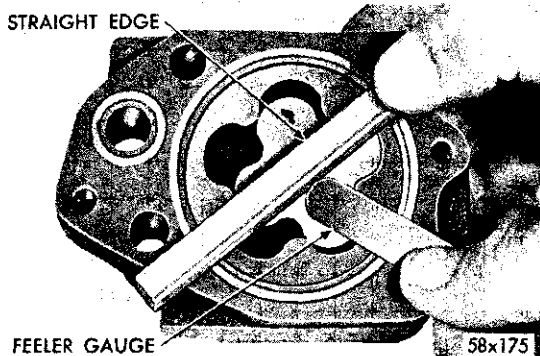
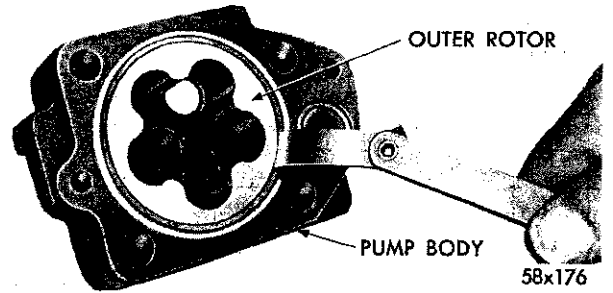
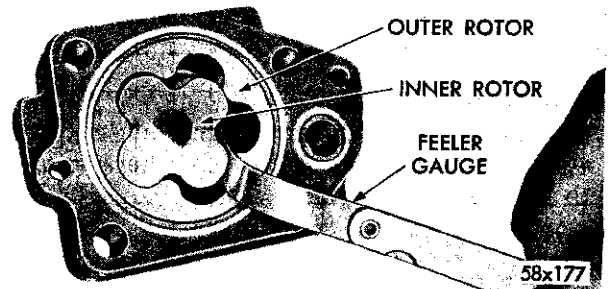

Fig. 60—Measuring the Clearance Over Rotors
Fig. 61—Measuring the Outer Rotor Clearance
Fig. 62—Measuring the Clearance Between Rotors
(5) Slide the outer rotor and inner rotor into the pump body and place a straightedge across the face (between the bolt holes), as shown in Figure 60.
(6) If a feeler gauge of more than .004 inch can be inserted between the rotor and the straightedge replace the rotor.
(7) Remove the inner rotor and shaft leaving the outer rotor in the pump cavity.
(8) Press the outer rotor body to one side with the fingers and measure the clearance between the outer rotor and the pump body (Fig. 61).
(9) If the measurement is more than .012 inch, replace the oil pump body.
(10) If the tip clearance between the inner and outer rotor (Fig. 62) is more than .010 inch, replace the inner and outer rotors.